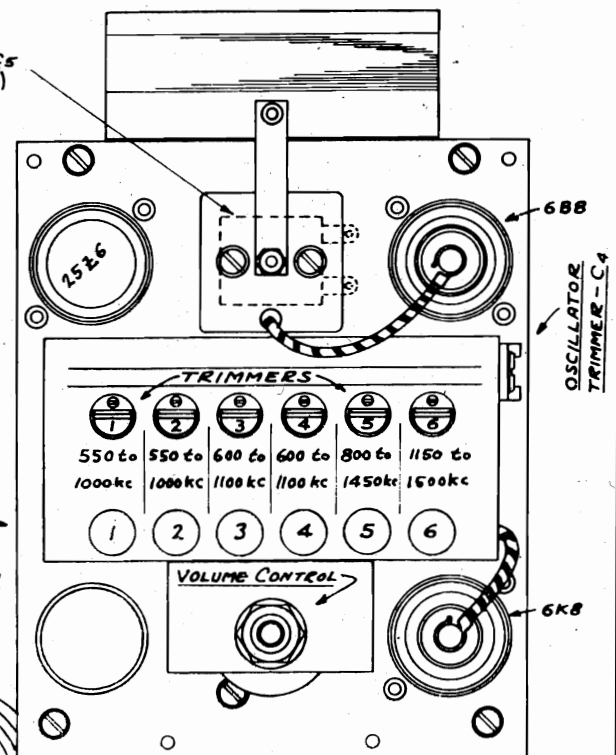

FIGURE 1
1. Make a list of station call letters of six nearby powerful broadcast stations that it is desired to set up on the buttons. Arrange the stations in the list in the order of their frequency. That is, the station of lowest frequency will be first; the next higher second, etc. After marking down the frequencies on the chart along side of the station call letters and arranging them in their proper order, number 1, 2, 3, 4, 5 and 6 respectively. Check each frequency with figure 1. A typical list appears below.
5. Depress button No. 1 (see figure 1).